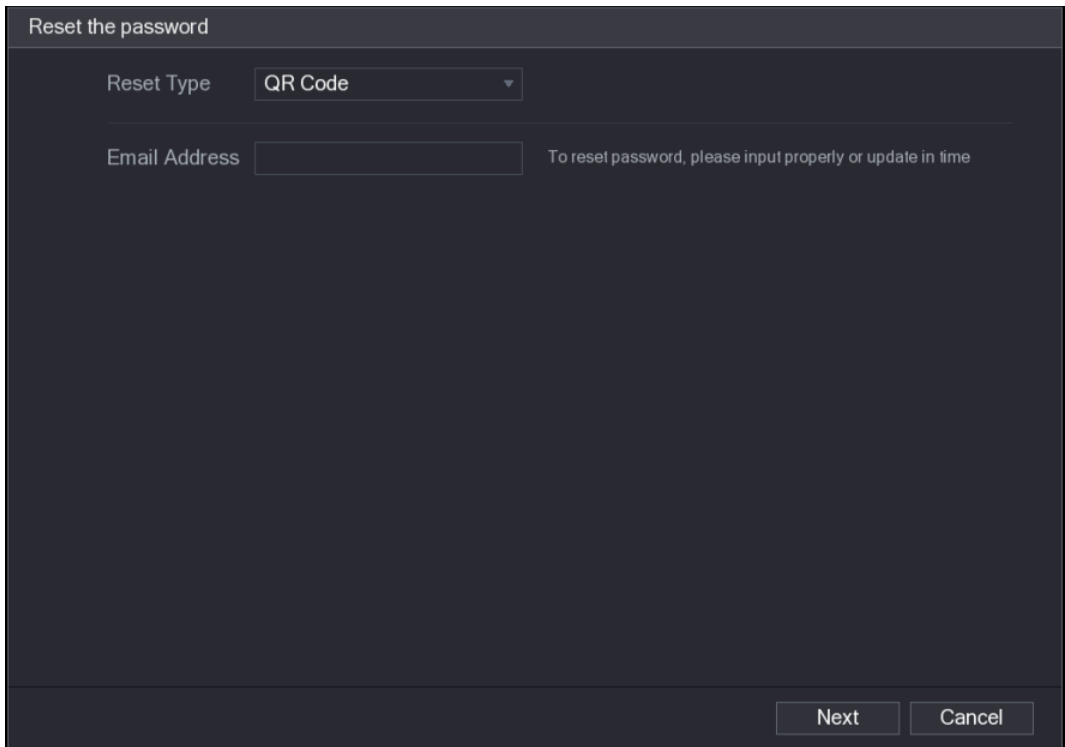
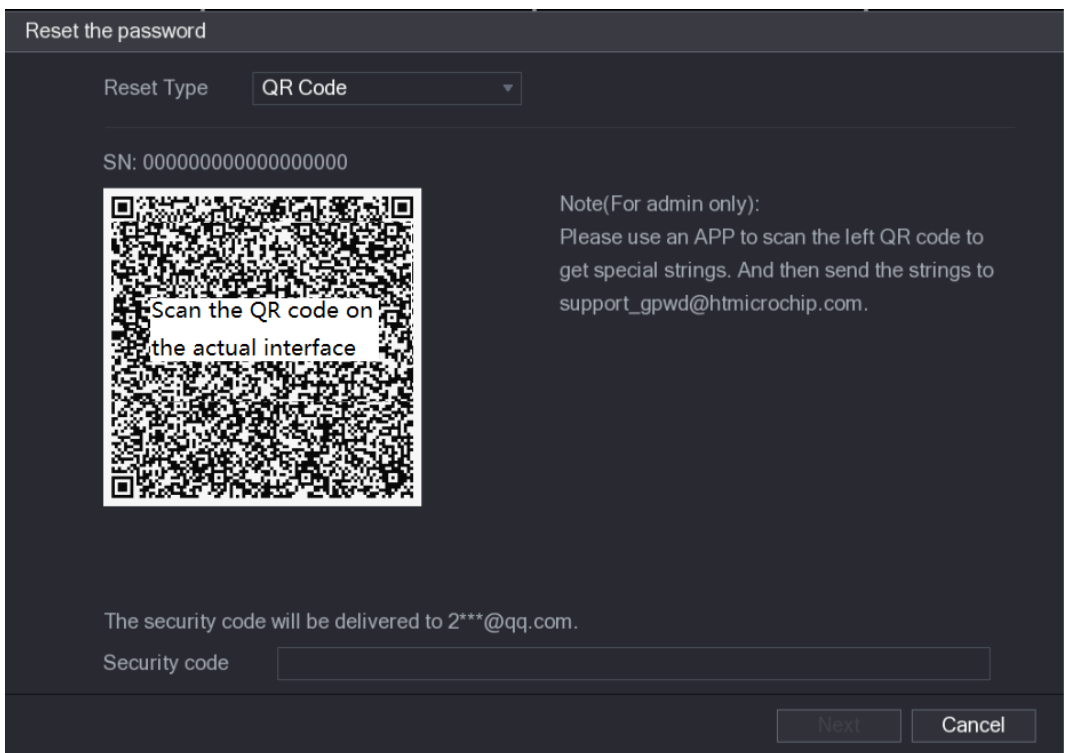

Figure 5-6
Figure 5-7
- If you did not set the reserved email address, the email entering interface is displayed. See Figure 5-6. Enter the email address, and then click **Next**, the **Reset the password** interface is displayed. See Figure 5-7.
- If you have set the reserved email address, the **Reset the password** interface is displayed. See Figure 5-7.
- 1) On the **Reset the password** interface as shown in Figure 5-6, in the **Reset Type** list, select **Security Questions**, the Security Questions interface is displayed, see Figure 5-8.